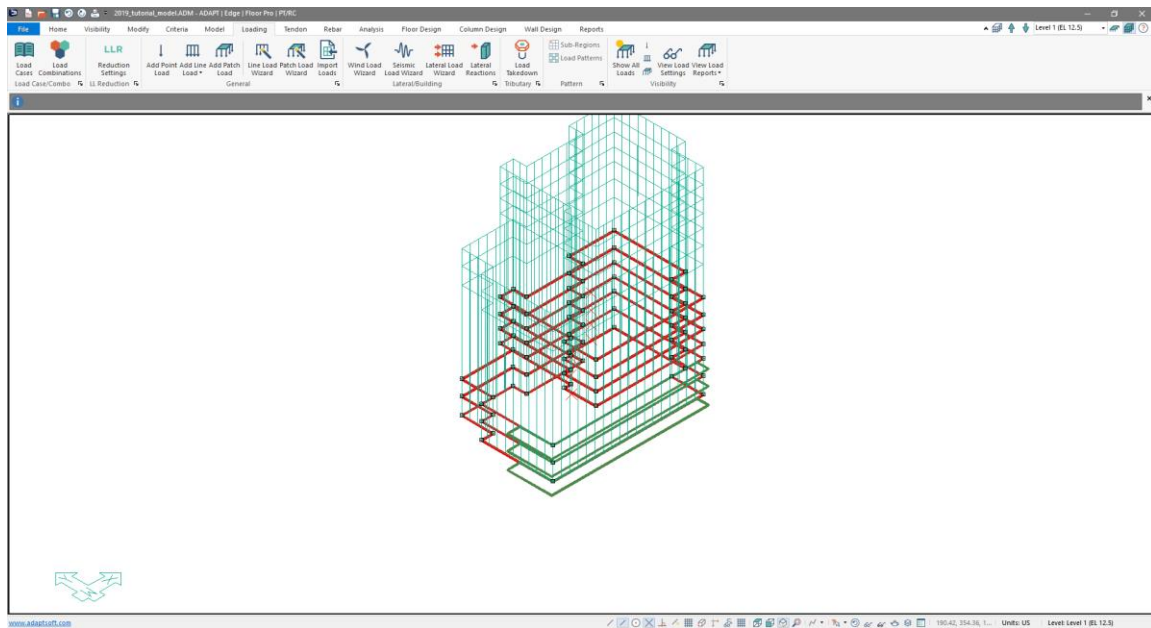

Figure 7-9
- The user will now see green lines representing the projection of the cladding load as shown in **FIGURE 7-9**. We have applied a 400plf load to each of the levels main slab’s edges.